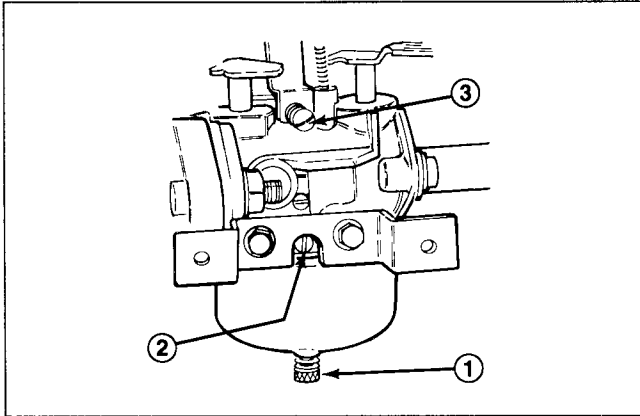

Figure 30
2. Power Adjusting Screw (Fig. 30)—Close screw by gently rotating it clockwise until a slight seating resistance is felt. Next, rotate power adjusting screw 1 full turn—360°—counterclockwise.
3. Idle Mixture Screw (Fig. 30)—Close screw by gently rotating it clockwise until a slight seating resistance is felt. Next, rotate idle mixture screw 1-1/2 full turns counterclockwise.
5. Rotate power adjusting screw (Fig. 30) clockwise—in—1/8 turn at a time until engine misses because of a lean gasoline mixture. Then rotate screw counterclockwise—out—1/8 turn at a time until engine runs unevenly because of a rich gasoline mixture. Next, rotate power adjusting screw clockwise, back to the midpoint between the rich and lean setting, so engine runs smoothly.
7. Rotate idle mixture screw (Fig. 30) clockwise—in—1/8 turn at a time until engine begins to miss because of a lean mixture. Then rotate screw counterclockwise—out—1/8 turn at a time until engine runs unevenly because of rich mixture. Next, rotate idle mixture screw clockwise, back to the mid-point between rich and lean settings.
8. Again, rotate idle speed screw (Fig. 30) until engine idles at 1750 rpm.